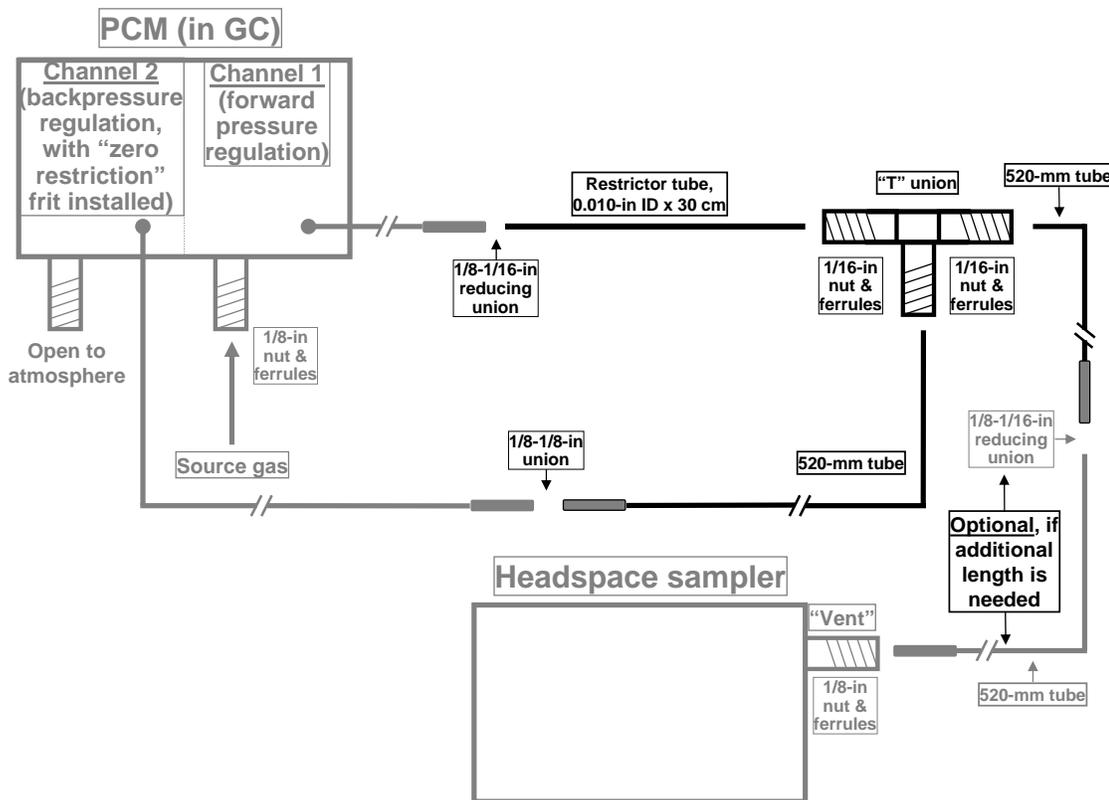
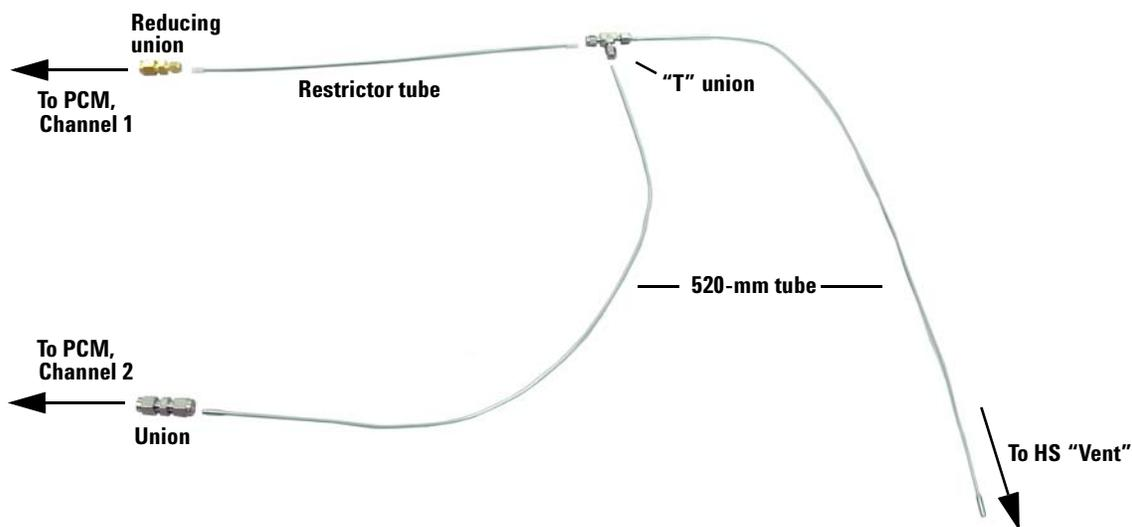

Figure 2 Assembly diagram
Figure 3 Parts assembly layout (optional reducing union and 520-mm tube not shown)
Assemble component parts as shown in Figure 2 and Figure 3:
Again referencing Figure 2 and Figure 3 on page 3 and using pairs of wrenches against each other and proper swaging procedures:
- 2 Again referencing Figure 2 and Figure 3 on page 3, and using pairs of wrenches against each other and proper swaging procedures: